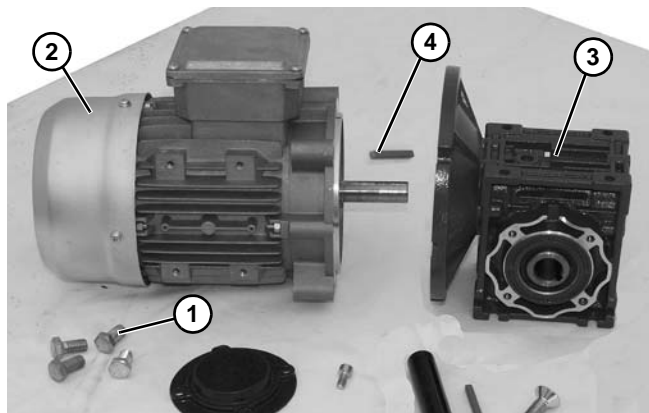

Figure 20
- Remove four screws (**Figure 20, item 1**). Detach motor (**Figure 20, item 2**) from gear reducer (**Figure 20, item 3**). Retain shaft key (**Figure 20, item 4**).
13. Apply anti-seize to motor shaft before assembling to gearbox. With key (Figure 20, item 4) in keyway, slide motor (Figure 20, item 2) and gear reducer (Figure 20, item 3) together. Install screws (Figure 20, item 1) and tighten.